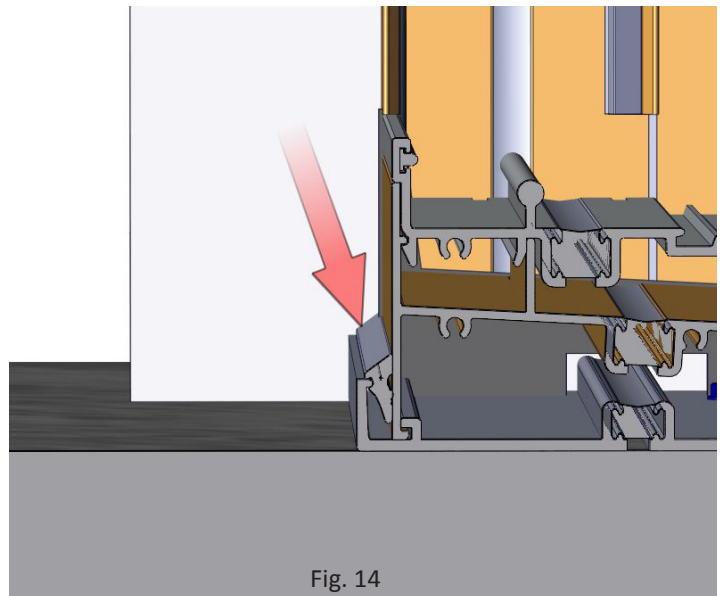

Fig. 14
6. Install wedge gasket in sub-sill anchor plate against interior leg of door. (Fig. 14)